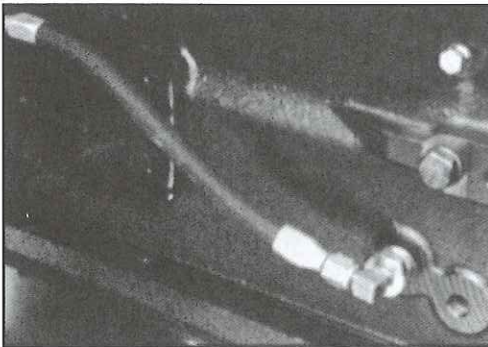

Fig. 29
1. Remove hose that connects STC valve to the engine block (Fig. 29).